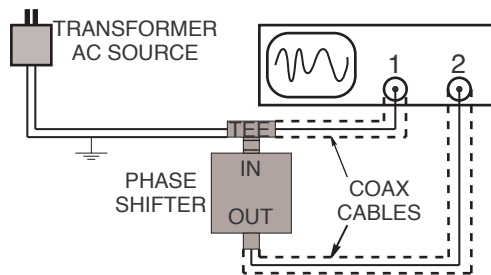

Figure 3
A. Hooking up the Circuit. You have an AC voltage source in the form of a small transformer that plugs into a standard wall socket and a phase shifter "black box" (a box that contains unknown components and labeled "Low Pass RC Filter") that will cause the waves to differ in phase. Use the provided connectors (BNC tees, coaxial cables, etc.) to connect the voltage source to both the small metal box's input BNC connector and channel 1 of the scope. Use channel 2 of the scope to observe the output of the box (you will need to turn on channel 2). See Figure 3 to help set this circuit up.